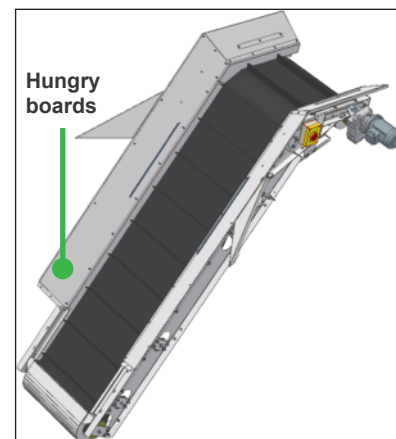

Figure 13 - Hungry boards
5. Remove all hungry boards and hungry board mountings (Figure 13).